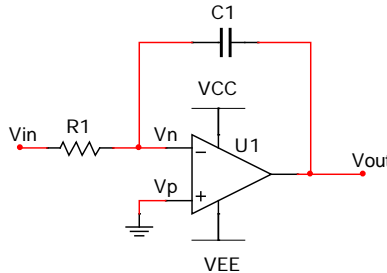
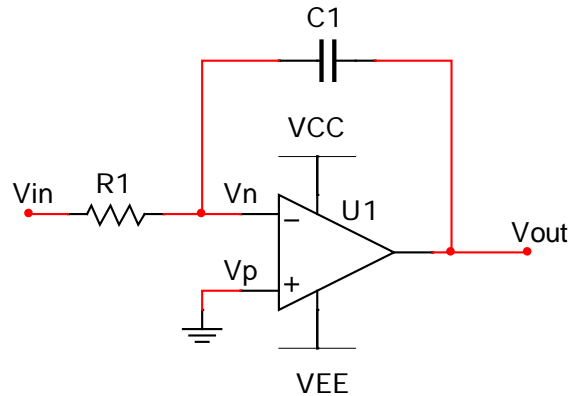

Figure 2. Simple integrator.
Figure 13. Simple integrator.
1. Analyze the integrator circuit in figure 13 (same as figure 2) to derive an equation for $V_{out}(t)$ as a function of $V_{in}(t)$. Show that the output is the integral of the input.